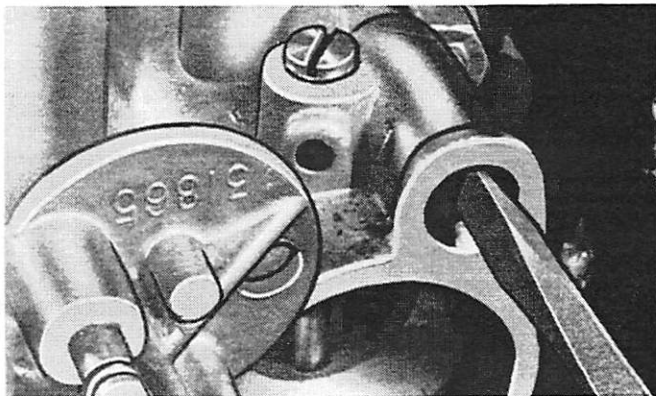

Figure 1. Adjusting Idle Mixture
5. With engine running at idling speed while in forward gear, turn low speed mixture adjusting needle clockwise (counterclockwise on 1969 models) until affected cylinders start to "load up" or fire unevenly due to over-rich mixture. (Figure 1)